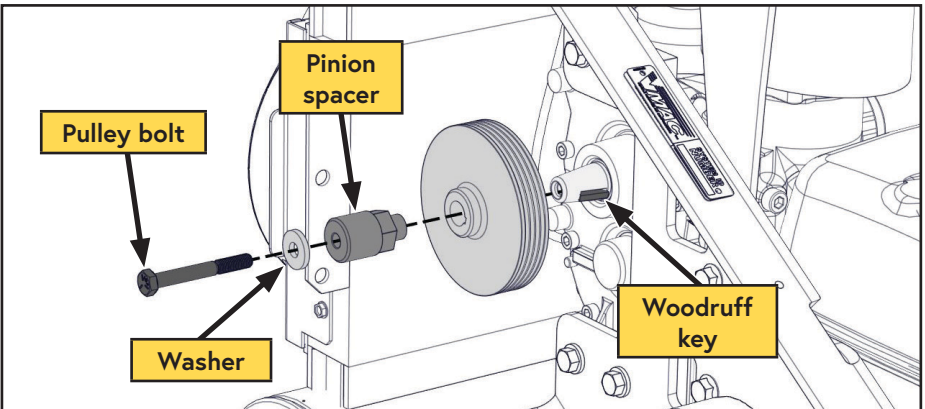

Figure 66 — Remove pulley
- ☐ While holding the pinion spacer, remove the pulley bolt (Figure 66).